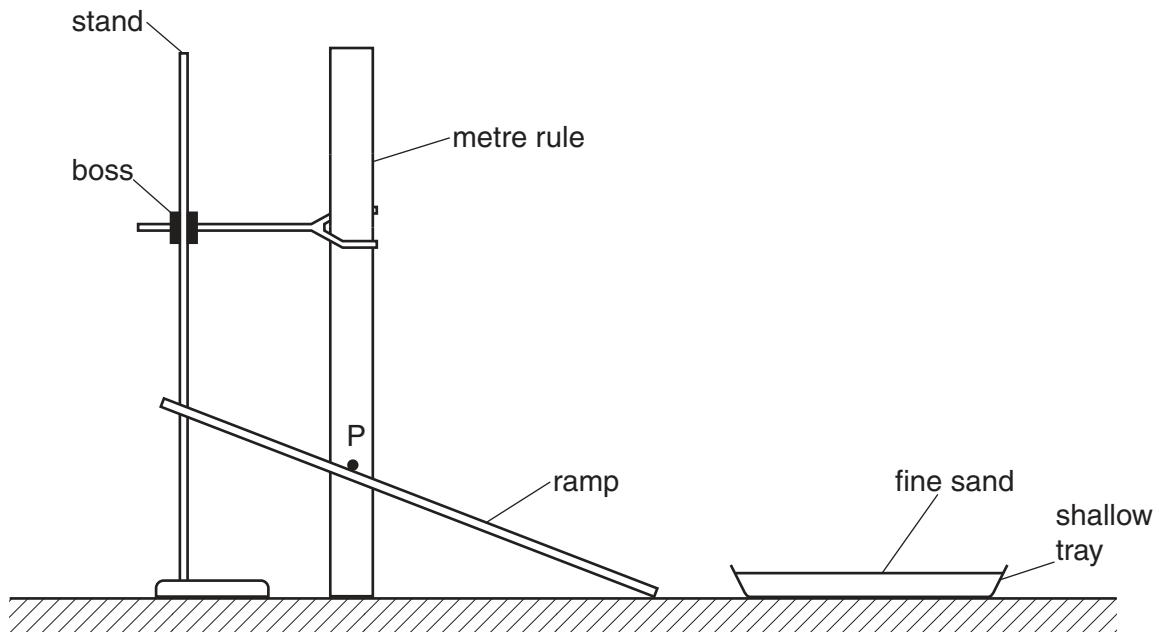

**Fig. 3.1**
- The ramp should be made of stiff wood and have a minimum length of 20 cm and a minimum width of 10 cm. A point P should be marked on the top face of the ramp, in the middle and 15.0 cm from the lower end, as shown in Fig. 3.1.